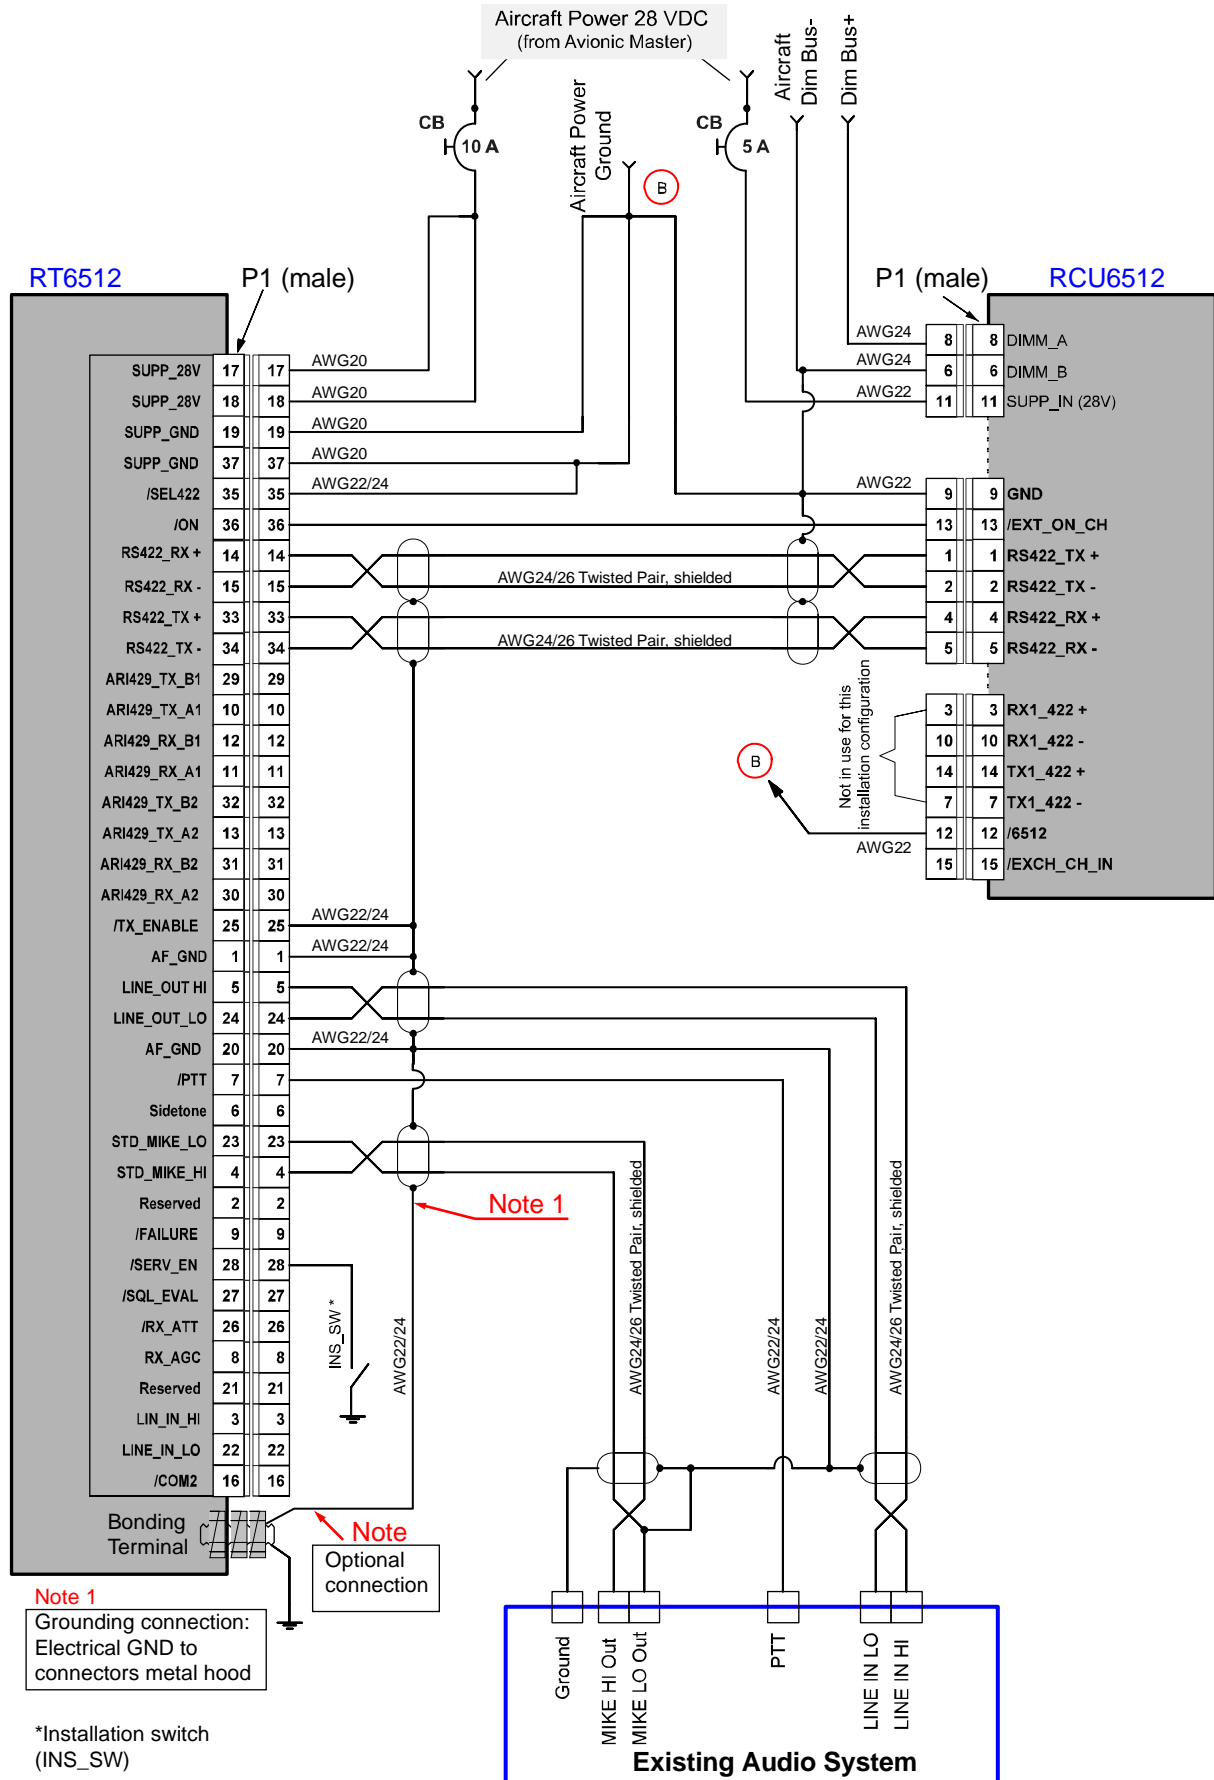

Figure 18: Wiring - RCU6512-(1XX), RCU6512-(2XX) as Primary Controller with RT6512
* For details see "Figure 18: Wiring - RCU6512-(1XX), RCU6512-(2XX) as Primary Controller", page 43).
<p>Notice: The change of RT6512 installation parameters is only possible when installation switch* ("INS_SW" to GND) is closed. For details see e.g. wiring "Figure 18: Wiring - RCU6512-(1XX), RCU6512-(2XX) as Primary Controller", page 43 or "Wiring -Two RCU6512-(3XX) for Tandem Operation with RT6512", page 45.</p>
<p>Figure 31: "RT MOD_LIMIT"</p>	<ul style="list-style-type: none"> • Push rotary encoder push button. • The display shows "RT MOD_LIMIT". <p>Notice: "RT MOD_LIMIT" is shown only when installation switch* is closed ("INS_SW" to GND). For details see e.g. wiring "Figure 18: Wiring - RCU6512-(1XX), RCU6512-(2XX) as Primary Controller", page 43 or "Wiring -Two RCU6512-(3XX) for Tandem Operation with RT6512", page 45.</p> <ul style="list-style-type: none"> • The "RT MOD_LIMIT" setting is for audio input sensitivity adjustment. <ul style="list-style-type: none"> ○ Minimum value of 5 dB correspond to minimum sensitivity (approx. 3 V_{RMS} at "MIKE_IN" and 6 V_{RMS} at "LINE_IN" to achieve 70% modulation) ○ Maximum value of 31 dB corresponds to maximum sensitivity (100 mV_{RMS} at "MIKE_IN" and 200 mV_{RMS} at "LINE_IN"). <p>Notice: Pay special attention when setting the input sensitivity.</p> <ul style="list-style-type: none"> • Start adjustment from the minimum. • Speak into the microphone as loudly as you would normally talk (do not shout). Maintain a constant voice level to record the modulation depth measurement. • Obey (measure) the modulation coefficient of the transmitted signal and increase the setting until the modulation depth is approximately 80...85%. • If the recipient of the transmitted message notices a "metallic" sound, the input limit is possibly exceeded. In this case the value of RT MOD_LIMIT must be decreased.